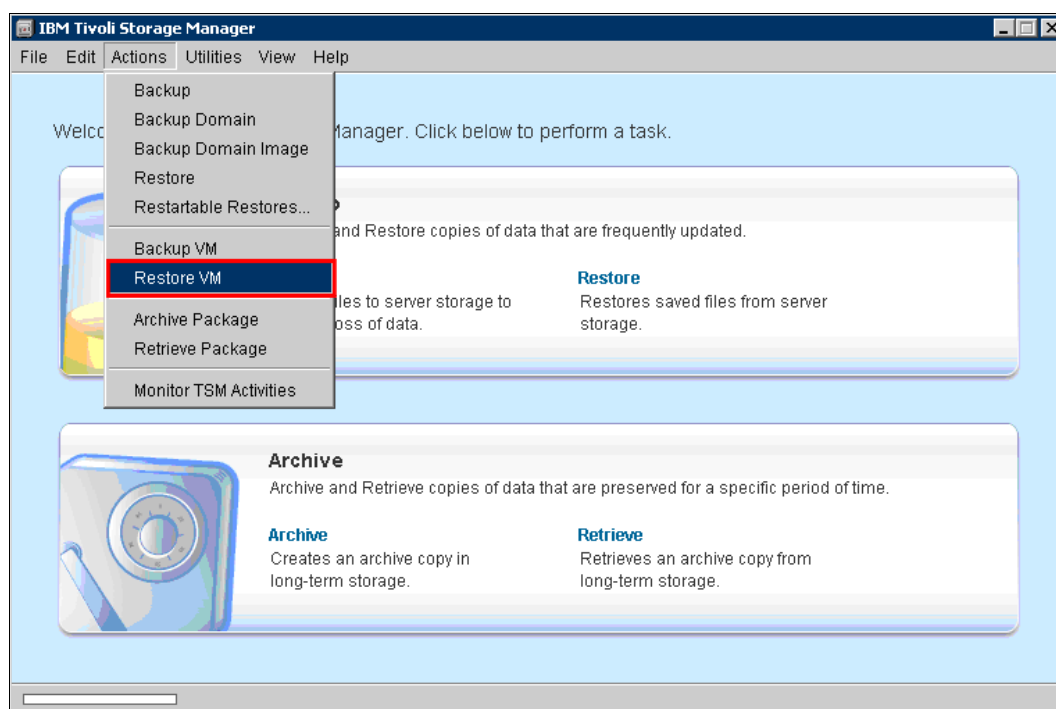

Figure 20-26 Tivoli Storage Manager GUI with Restore VM menu cascade
1. In the Tivoli Storage Manager GUI, click **Actions** → **Restore VM** (Figure 20-26).